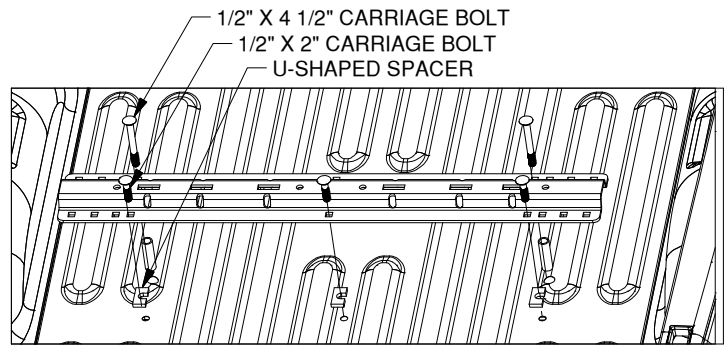

Figure B1: View looking into truck bed from rear of truck.
- Place the rear mounting rail.** Locate the two tube spacers, place a tube spacer into each of the 7/8" drilled holes. Re-position the rear mounting rail over the drilled 9/16" and 7/8" holes in the bed. Install two 1/2" X 4 1/2" carriage bolts into the two forward drilled positions (7/8" holes over the cross member) and install three 1/2" X 2" carriage bolts through the three rear drilled positions, as shown in Figure B1. Place a U-shaped washer between the bed and the mounting rail at the three rear drilled positions.